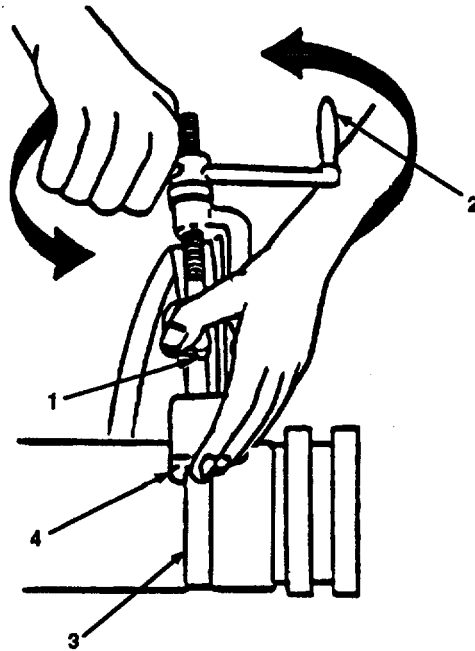

Figure 3-6. Tightening Strapping.
- q. With thumb on band gripper lever (Figure 3-6, 1), apply tension by turning banding tool handle (2) clockwise.
- r. Continue to turn banding tool handle (2) clockwise until strapping (3) stops moving, stop turning banding tool handle (2).